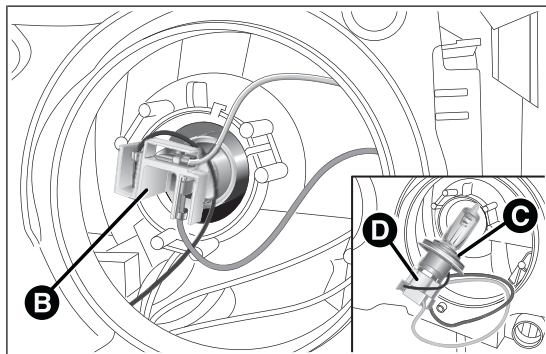

fig. 131
- turn the connector unit and the bulb holder B fig. 131 anticlockwise;